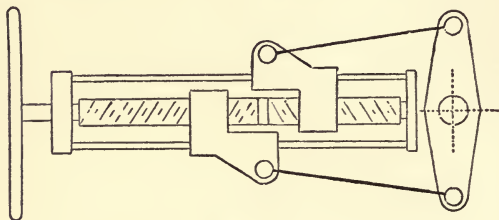

Fig. 1.
1. Fig. 1 illustrates a form of steering gear, which in a particular case has the following dimensions: length of cross-head 3 feet, length of each connecting rod 3 feet 6 inches, distance of the joints on the nuts from the centre line 12 inches, single threaded right and left-handed screw with four threads to the inch.